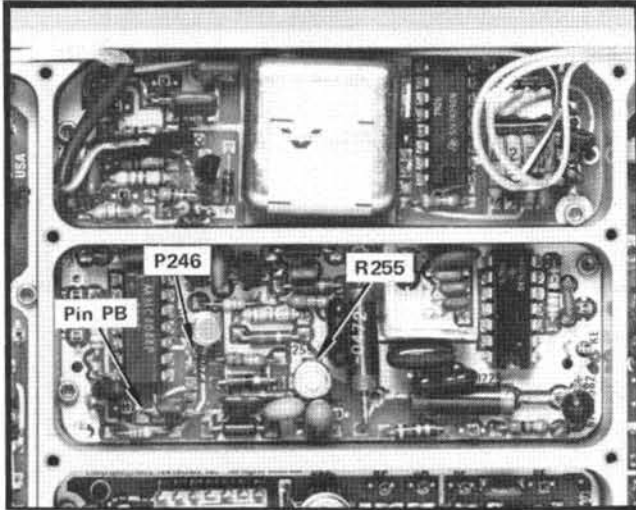
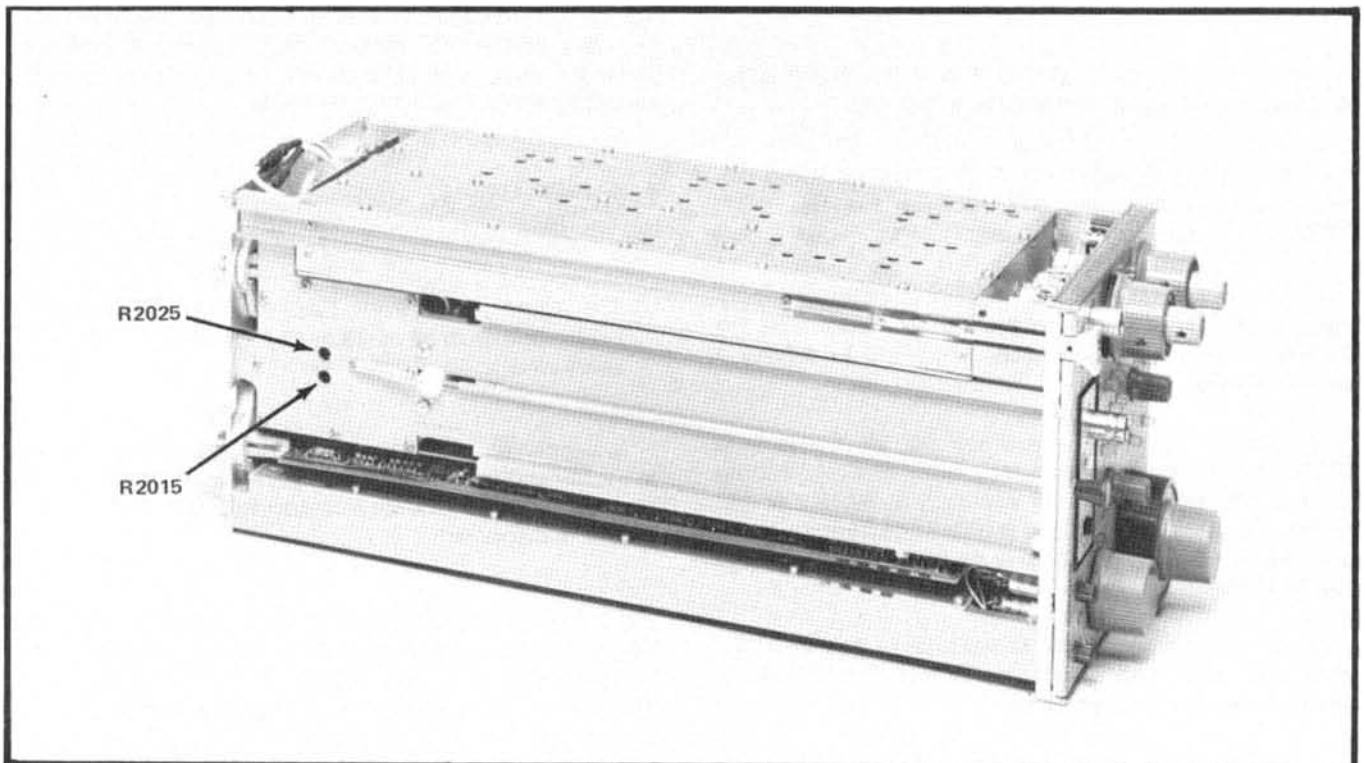
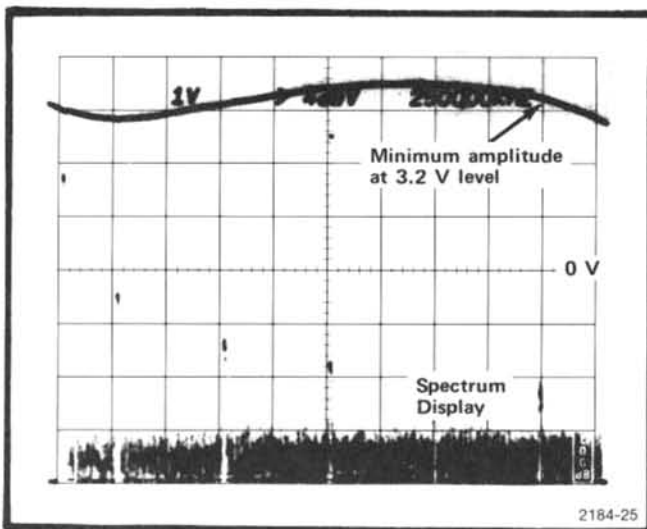

Fig. 4-9. Location of 1st LO Phase Lock test points and adjustments.
Fig. 4-10. Location of 1st LO adjustments.
Fig. 4-11. Typical response at pin PB when adjusting Sweep Offset and Gain.
d. Connect P246 (Fig. 4-9) from pin 2 to 3 then use the dc coupled amplifier to measure the dc voltage on P246. Adjust R255 (Fig. 4-9) for a voltage of 1.4 V. Reconnect jumper P246 from pin 1 to 2.
e. Connect the Input of the vertical amplifier through a test probe to pin PB (Fig. 4-9) on the 1st LO Lock board. With the FREQUENCY SPAN/DIV at MAX position, adjust the Sweep Offset, with R2015 (Fig. 4-10), for a voltage of 3.2 V at pin PB.
f. Now adjust the Sweep Gain, with R2025 (Fig. 4-10), for minimum signal amplitude as illustrated in Fig. 4-11. Repeat the Sweep Offset and Sweep Gain adjustments until minimum peak-to-peak signal amplitude is obtained with a dc level, at pin PB, of 3.2 V.
The 1st LO frequency must be nearly correct to obtain the proper waveform from the 1st LO lock. If this waveform cannot be obtained, set the FREQUENCY SPAN/DIV to MAX, Display Mode to 10 dB/DIV, and RESOLUTION to 30 kHz. Note the position of the 0 Hz start spur. Now, adjust R2015 and R2025 (Fig. 4-10) to position the 0 Hz start spur under the first graticule line. If the lock is working, there should be a slight hesitation as the 0 Hz start spur is tuned past the 1st graticule line. Once the 0 Hz start spur is in the correct position, a usable waveform should be obtained from the 1st LO lock.